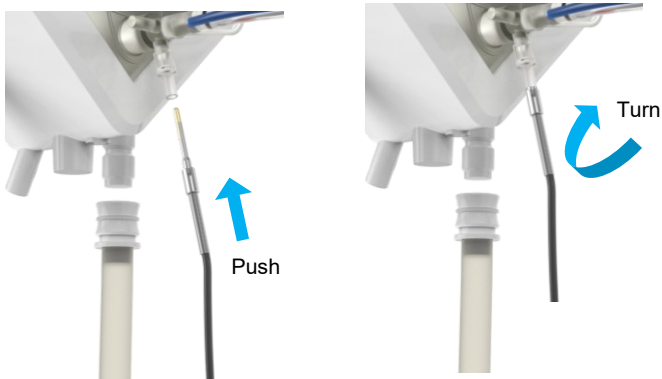

Figure 14 Connection of the temperature sensor to the oxygenator
- Connect the red T1 sensor to the oxygenator outlet (Figure 14).